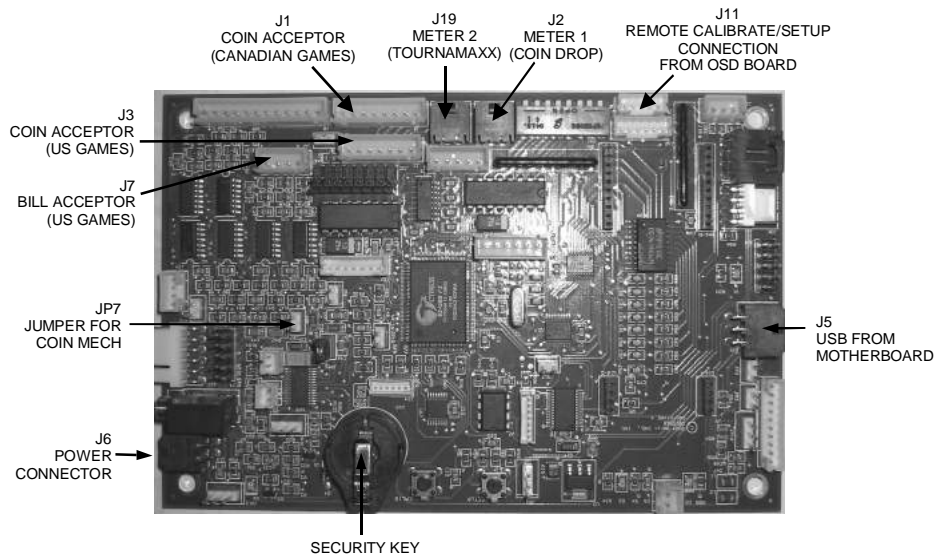
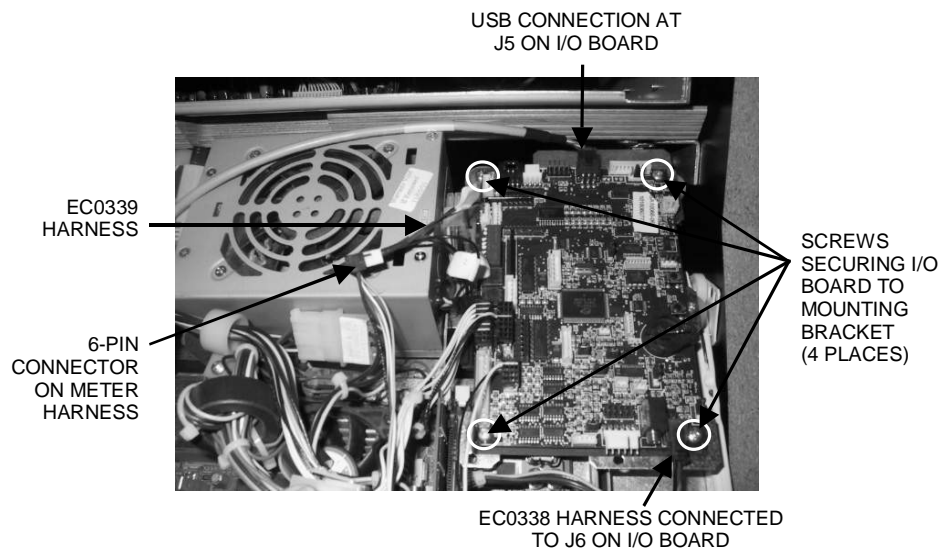
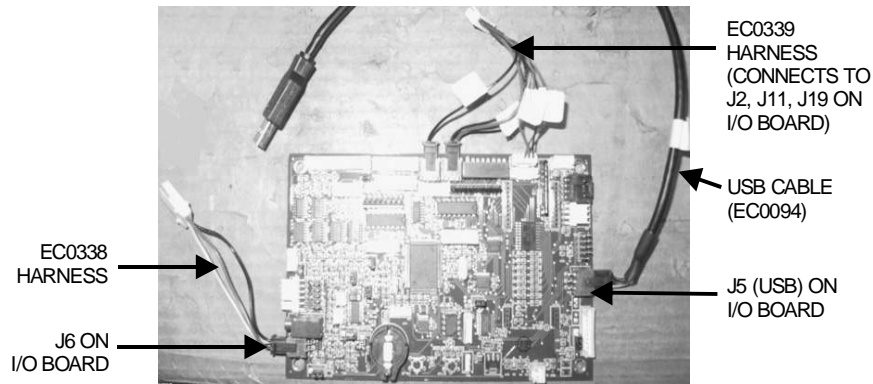
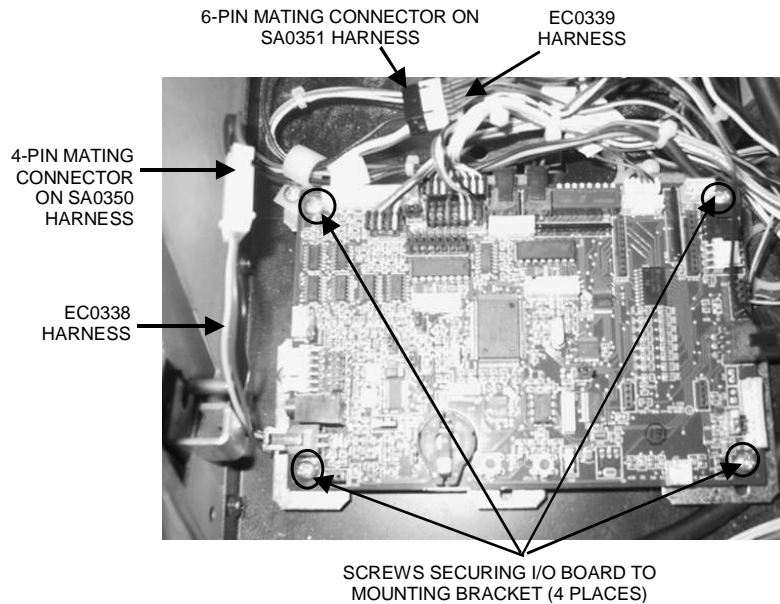

FIGURE 1 - NEW I/O BOARD
FIGURE 12 - NEW I/O BOARD IN UPRIGHT GAME
FIGURE 15 - NEW CONNECTIONS ON I/O BOARD
FIGURE 16 - NEW I/O BOARD IN ELITE GAME
9. Connect the other connectors on the EC0339 harness to J2 (meter 1), J11 (setup/calibrate), and J19 (meter 2 - TournaMAXX, if applicable) on the new I/O board. See Figure 1 for connector locations.
10. Connect the appropriate coin and/or bill acceptor harness(es) to the new I/O board, using Figure 1 as a reference. Secure harnesses under the cable clamp, if necessary.
11. If your game has an Imonex coin mech, remove the shunt from JP7. If your game does not have an Imonex coin mech, make sure that the shunt is in place at JP7. See Figure 1.
12. Remove the security key from the original I/O board and install it in the key socket on the new I/O board. Refer to Figure 1.
7. Connect the supplied EC0339 harness to J11 (setup/calibrate), J2 (meter 1) and J19 (meter 2 - TournaMAXX, if applicable) on the new I/O board. Refer to Figure 1 for connection locations.
12. Connect the appropriate coin and/or bill harness(es) to the new I/O board, using Figure 1 as a reference.
13. If your game has an Imonex coin mech, the jumper must be removed from JP7 on the new I/O board. If your game does not have an Imonex coin mech, the jumper must be in place at JP7. See Figure 1.
14. Remove the security key from the original I/O board and install it in the key socket on the new I/O board. Refer to Figure 1.
7. Line up the supplied fish paper on top of the mounting bracket. Align the provided I/O board on the fish paper, and secure to the metal mounting bracket using the 4 screws removed in step 4. Refer to Figure 12.
8. Locate the meter harness already in the game, then locate the free 6-pin connector on this harness. Connect this 6-pin connector to its mating connector on the provided EC0339 harness. Connect the other connectors on the EC0339 harness to J2 (meter 1), J11 (setup/calibrate) and J19 (meter 2 - TournaMAXX, if applicable) on the new I/O board. See Figure 12. Refer to Figure 1 for connection locations.
9. Locate the SA0226 DC power harness already in the game, then locate the free 4-pin connector on this harness. Connect this 4-pin connector to the provided EC0338 harness. Connect the other end of the EC0338 harness to J6 on the I/O board. See Figure 12.
10. Disconnect the USB cable from the motherboard. Connect the mating end of the supplied USB cable to the USB connector on the motherboard, and the other end to J5 on the new I/O board. See Figure 12.
11. Connect the appropriate coin and/or bill acceptor harness(es) to the new I/O board. See Figure 1.
12. If your game has an Imonex coin mech, remove the shunt from JP7. If your game does not have an Imonex coin mech, make sure that the shunt is in place at JP7. See Figure 1.
13. Remove the security key from the original I/O board and install it in the key socket on the new I/O board. Refer to Figure 1.
6. Connect the supplied EC0339 harness to J2 (meter 1), J11 (setup/calibrate), and J19 (meter 2 - TournaMAXX, if applicable) on the new I/O board. See Figure 15 (and Figure 1, if necessary).
7. Connect the supplied EC0338 harness to J6 on the new I/O board. See Figure 15.
8. Connect the supplied EC0094 USB cable to J5 on the new I/O board. See Figure 15. Disconnect the USB cable from the motherboard, and replace it with the supplied EC0180 USB extension cable. Connect the other end of EC0180 to its mating connector on the EC0094 USB cable. Secure EC0180 under cable clamps as necessary.
9. Align the supplied fish paper on top of the mounting bracket. Line up the provided I/O board on the fish paper, and secure to the mounting bracket using the 4 provided screws. See Figure 16.
10. Locate the SA0350 DC power harness already in the game, and then locate the 4-pin connector on this harness. Connect this 4-pin connector to its mating connector on the provided EC0338 harness. Secure the SA0350 harness under the cable clamp. See Figure 16.
11. Locate the SA0351 main signal harness already in the game, and then locate the 6-pin connector on this harness. Connect this 6-pin connector to its mating connector on the provided EC0339 harness. See Figure 16.
12. Connect the other connectors on the SA0351 harness to the appropriate coin and/or bill acceptor connections on the new I/O board. Refer to Figure 1 for connection locations. Secure the SA0351 harness under the cable clamp. See Figure 16.
13. If your game has an Imonex coin mech, remove the shunt from JP7. If your game does not have an Imonex coin mech, make sure that the shunt is in place at JP7. Refer to Figure 1